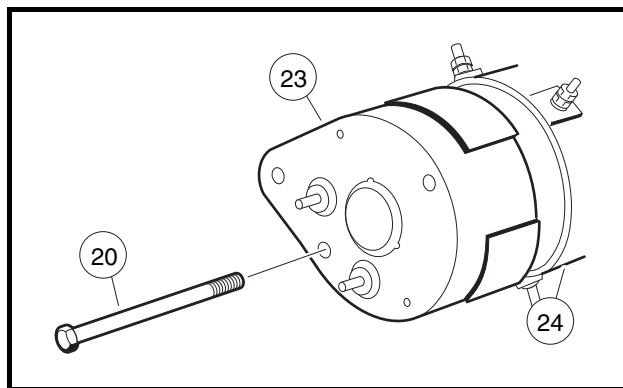

Figure 12-2 Commutator End Cover
1. Remove the two bolts (20) and pull commutator end cover (23) free of starter/generator housing (24) (Figure 12-2, Page 12-2). See following NOTE.
3. Install the commutator end cover (23) onto the armature shaft. Align the locating pin and hole in the cover. Install two M6 x 180 mm bolts (20) and tighten to 100 in-lb (11.3 N·m) (**Figure 12-2, Page 12-2**).
1. Remove the two bolts (20), and pull commutator end cover (23) free of the starter/generator housing (24) (**Figure 12-2, Page 12-2**). See following **NOTE**.
9. Install the commutator end cover (23) onto the armature shaft. Align the locating pin and hole in the cover. Install the two M6 x 180 mm bolts (20) and tighten to 100 in-lb (11.3 N·m) (**Figure 12-2, Page 12-2**).